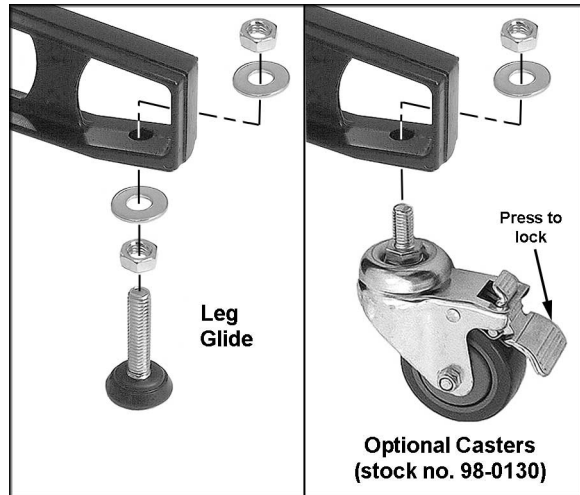

Figure 4
5. With the sander raised, install the four leg glides, (or optional casters, not provided). See Figure 4. If using the casters, first lock the caster by pressing the large tab, in order to remove the hex nut and flat washer.
Proper leveling is important for getting the maximum performance from your sander. Before making fine adjustments, place the unit where it will be used in the shop. Then adjust the four leg glides (see Figure 4) using a carpenter's level placed on the conveyor bed in both X- and Y-axis positions. Make sure the hex nuts on the leg glides are tightened securely against the sander legs.